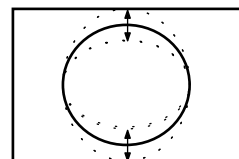

Fig. 3
- Adjust the vertical size to obtain picture overscan (Fig.3).